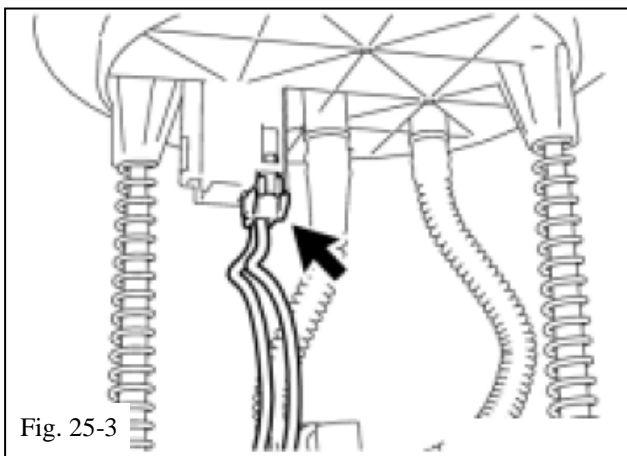

Fig. 25-3
- (c) Disconnect the fuel pump connector (Fig. 25-3).